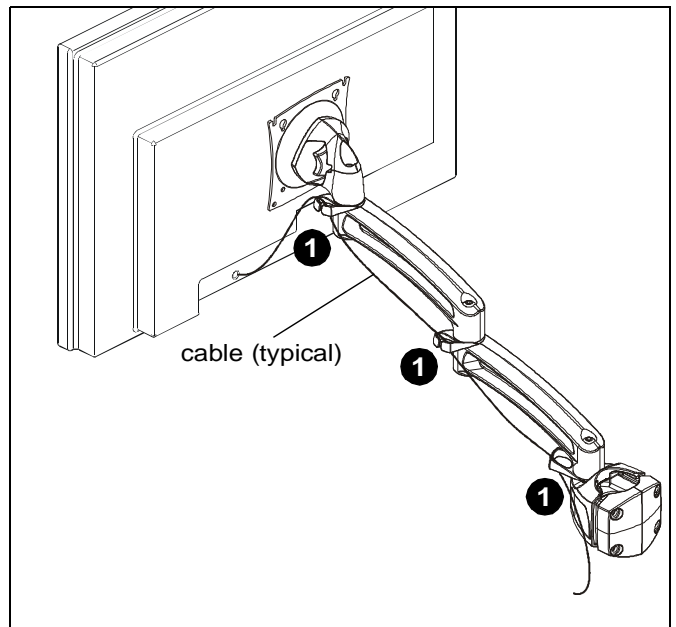

Figure 5
1. Route cables through cable management channels. (See Figure 5)